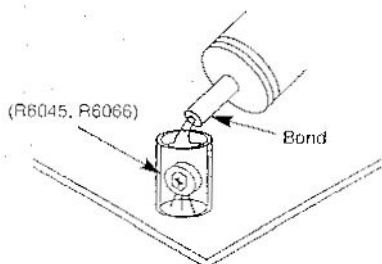

Fig. 4
16. Fix R6066 (Protector 2 Adj.) and R6045 (HV Adj.) with bond as illustrated below. (Fig. 4)